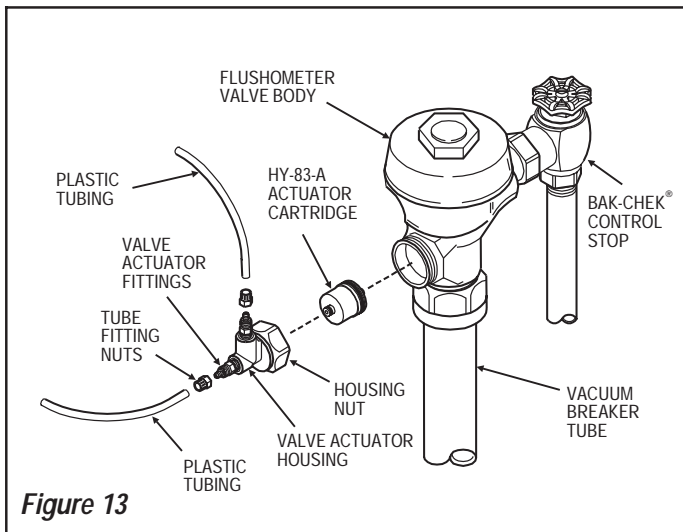

Figure 13
Step 5 — Install Valve Actuator (Figure 13)